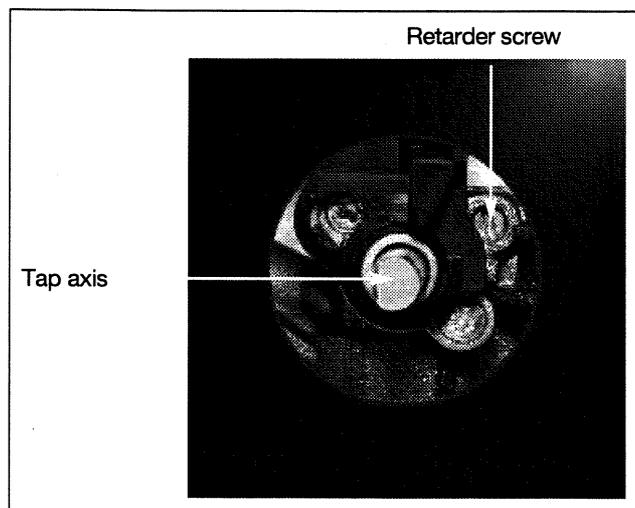

Fig. 5
- Using the small screwdriver, supplied in the bag, **screw fully** the brass, adjustment screw (yellow) (fig.5) **clockwise**